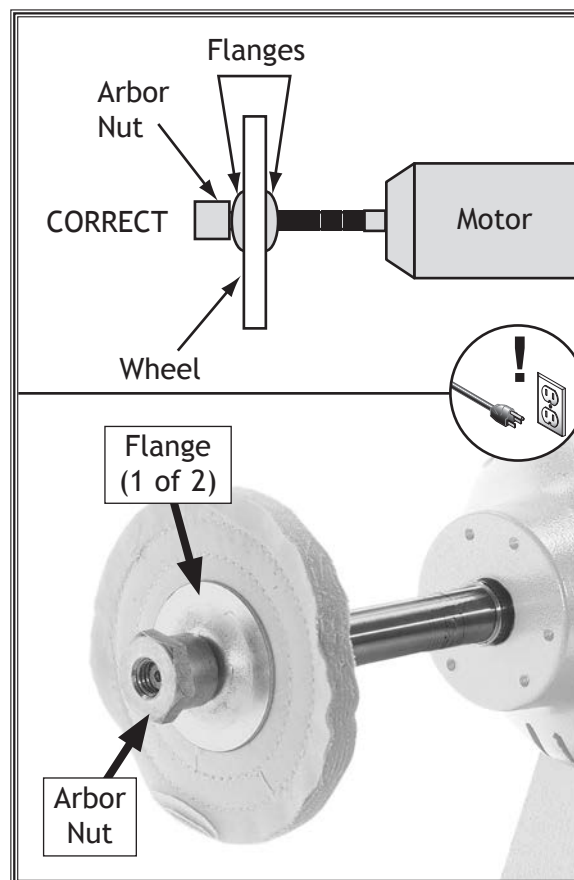

Figure 28. Buffing wheel installed.
3. Insert a buffing wheel (not included) between the provided wheel flanges. Secure flanges with the arbor nut removed in the previous step, as shown in **Figure 28**.